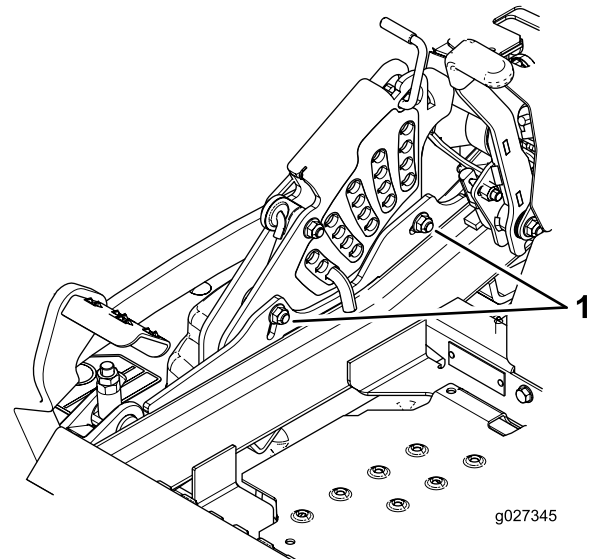

**Figure 108**
- Fine-tune the adjustment nut on the front deck-lift assembly by turning it (Figure 108).
- 16. Fine tune the screw adjuster by turning it to get 8.3 mm (3-1/4 inches) height (Figure 108).